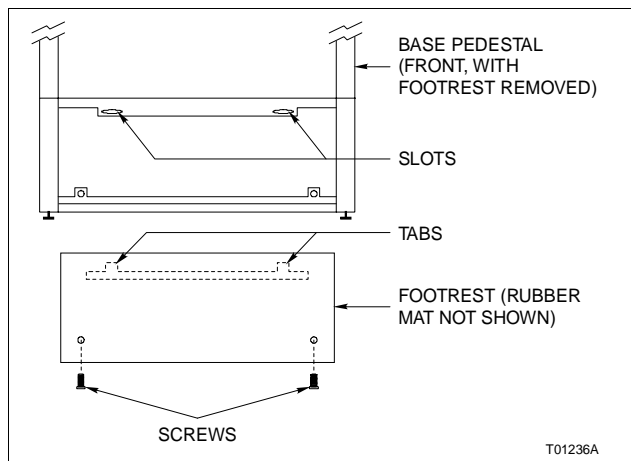

Figure PR67-1. Footrest Installation
1. Insert the footrest tabs into the slots in the base pedestal (Fig. PR67-1).